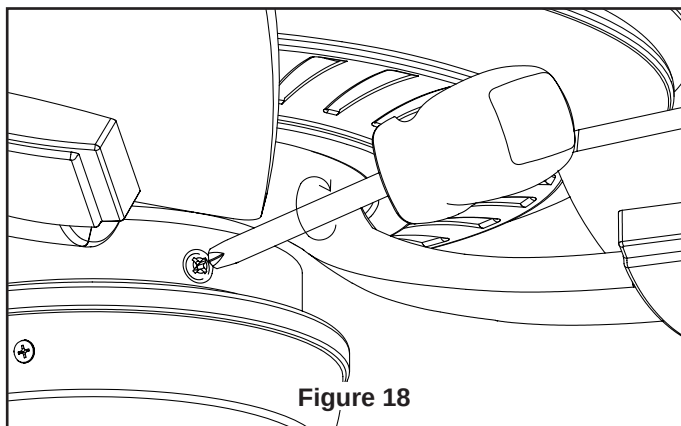

Figure 18
- ☐ 2. Assemble the switch cup assembly onto the housing adapter with three screws. (Figure 18)